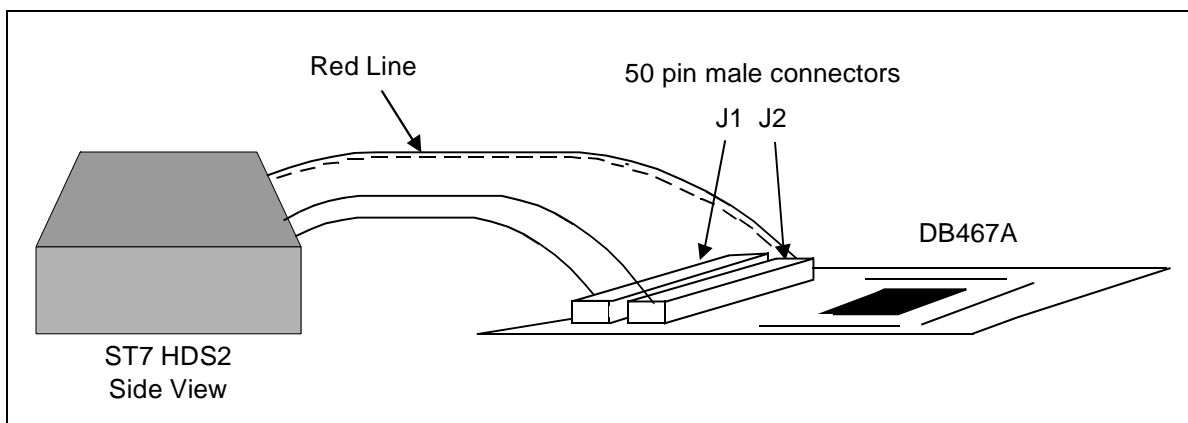

**Figure 4: Connecting the emulator to the PC**
- 2 Connect one end of the parallel cable to the emulator's rear panel 25-pin SUB-D connector and the other end to one of the PC's parallel ports (LPT1 to LPT2)—refer to Figure 4.